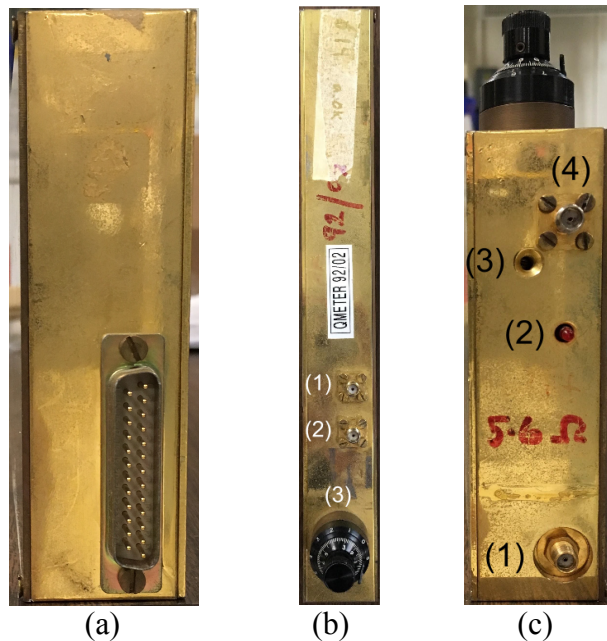

Figure 8.6: Q-meter: (a) front-view (b) top-view (c) back-view
The circuitry just discussed is housed within a rectangular box, which is called a Q-meter. The front of the Q-meter housing, shown in Fig. 8.6 (a), has one 25D connector which accommodates the power supply input and detected outputs. The top of the housing, Fig. 8.6 (b), has two SMA sockets labeled (1) and (2). The knob (3) is a fine adjustment knob for the tuning capacitor. The back of the Q-meter is shown in Fig. 8.6 (c). An RF signal is delivered to the Q-meter through socket (1). The inductive coil is attached at socket (4). The small hole (3) is an access port which allows for coarse adjustment of the internal tuning capacitor (by inserting a small flat-head screwdriver into the access port to adjust the capacitor). The light (2) is an indicator light.